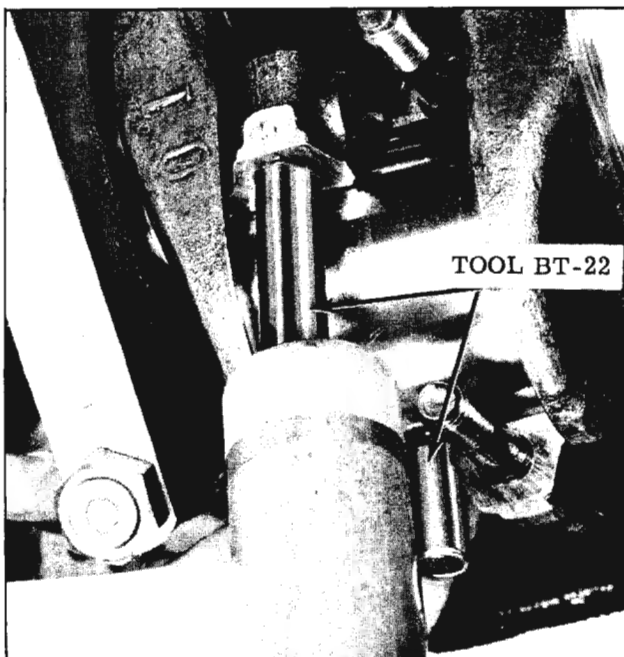

Fig. 8-24 Connecting Rod Removal
4. After removing bearing caps and bearings, place guide Tool BT-22 over the threads of connecting rod bolts to prevent damaging the bearing journals, then tap rod and piston assembly through the top of the cylinder bore. (Fig. 8-24) Pistons should only be removed from the top of the cylinder block.